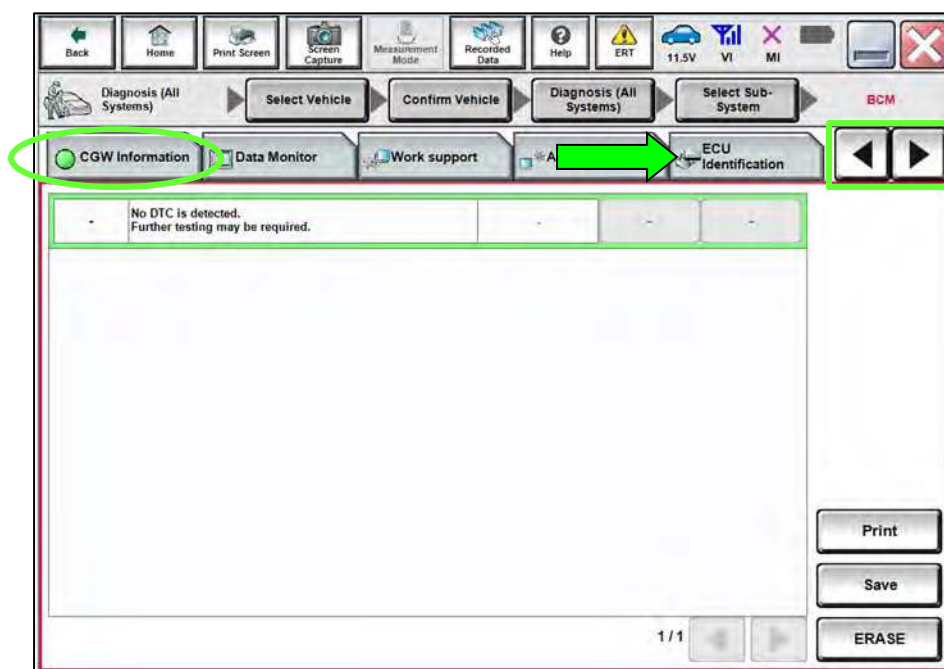

Figure 7
13. Confirm the **CGW Information** icon is "green" (Figure 7).